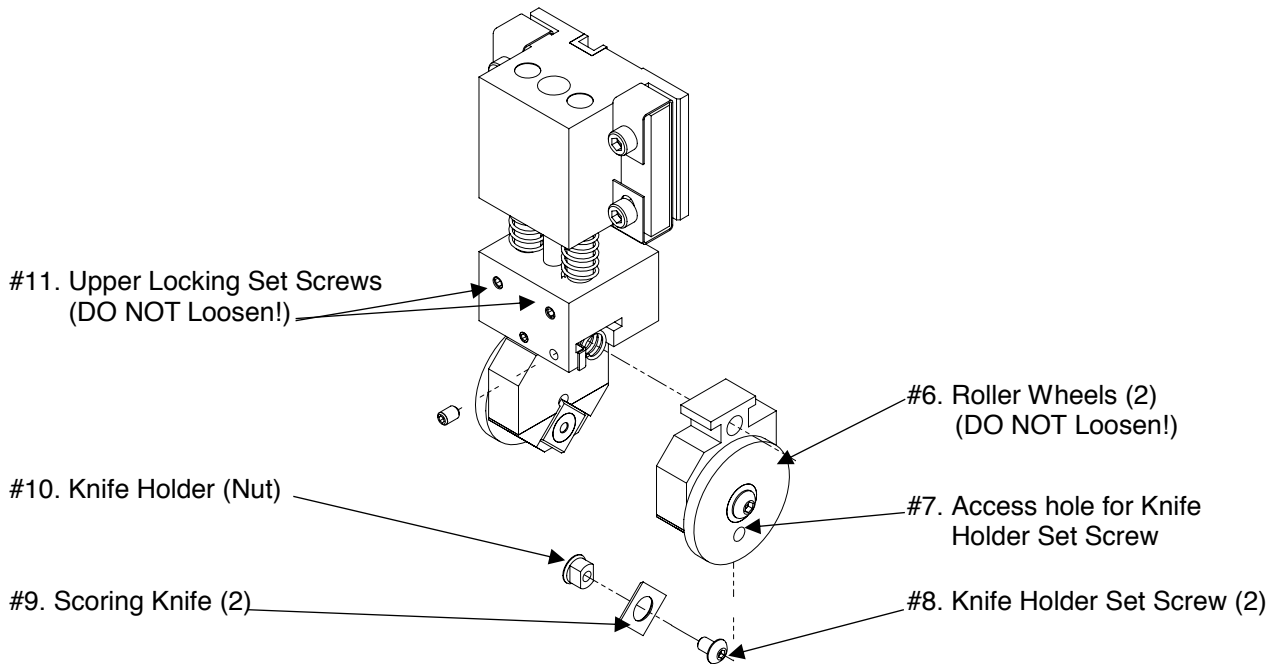

Figure 38: Scoring Knife Rotating/Replacing
1. DO NOT remove Roller Wheels (#6, Fig. 38).
3. Align Access Hole in Roller Wheel (#7, Fig. 38) with Set Screw for Knife.
5. Raise Knife Holder & Nut (#10, Fig. 38) and rotate (or replace) Knife.
NOTE: DO NOT loosen or remove #11, Upper Locking set screws or #6 Roller Wheel (Fig. 38).